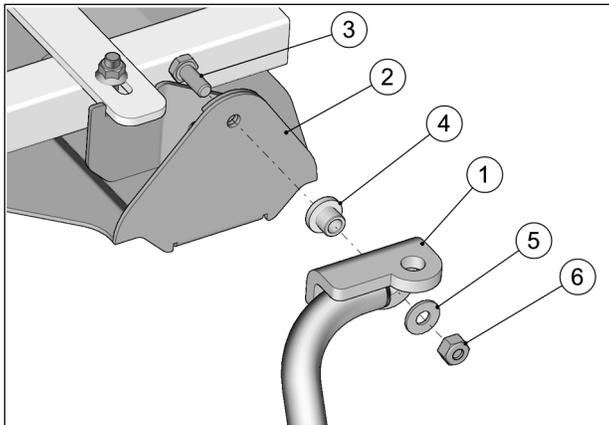

Fig. 8
- Attach the rear suspension stabilizing rod (1) to anchor plate (2) using the bolt (3), bushing (4), washer (5) and nut (6). Torque to 50 N•m [37 lb•ft]. See Fig. 8